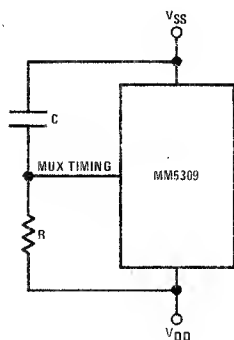

FIGURE 4a. Relaxation Oscillator
**Multiplex Timing Input:** The multiplex oscillator is shown in *Figure 2*. Adding an external resistor and capacitor to this circuit via the multiplex timing input (as shown in *Figure 4a*) produces a relaxation oscillator. The waveform at this input is a quasi-sawtooth that is squared by the shaping action of the Schmitt Trigger in *Figure 2*. *Figure 3* provides guidelines for selecting the external components relative to desired multiplex frequency.